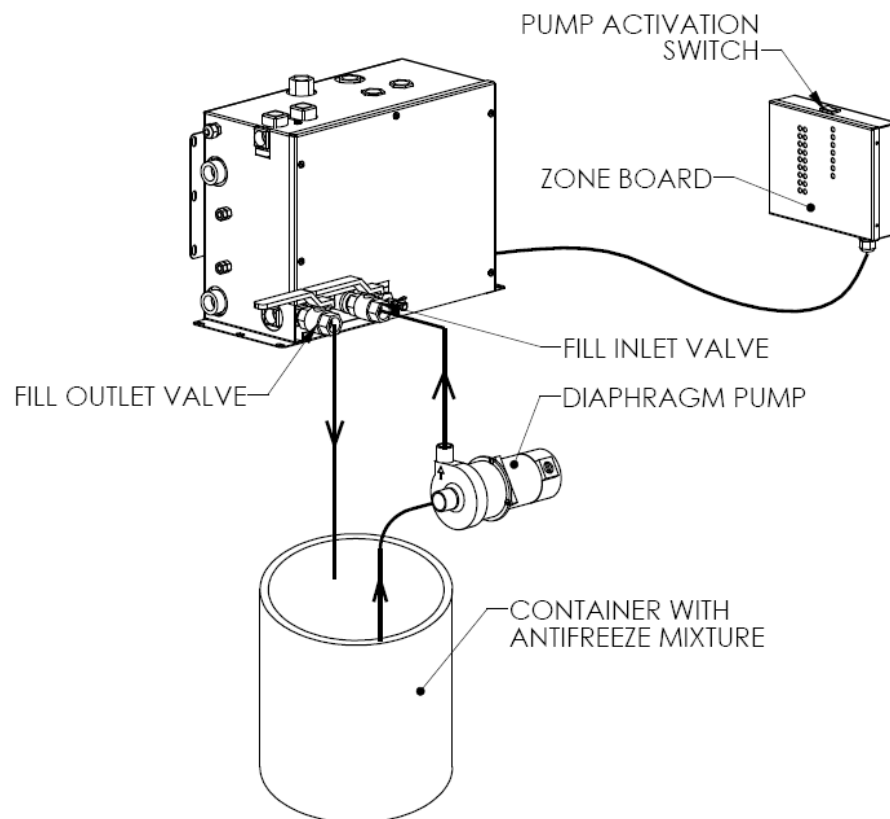

Figure 24: Initial fill up Oasis system
2. Remove the air filter (see Figure 24) from the hose that is connected to the air inlet of the air compressor (using a pair of pliers on the hose clamps).
1. Connect a hose to the outlet of a diaphragm pump and to the filling inlet valve on the distribution module. Attach a hose to the inlet of a diaphragm pump and place the hose in a container filled with a 50/50 mixture of propylene glycol and water. (see Figure 24).